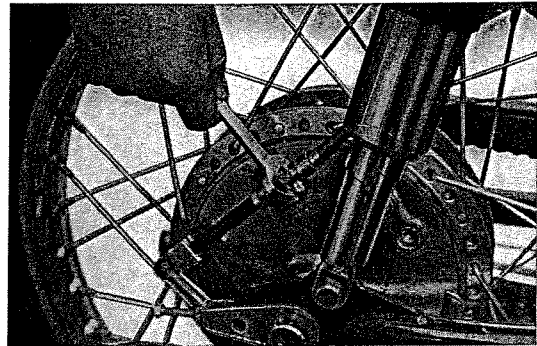

Fig. 6. 37 Adjustment of play of rear brake pedal
- c. Adjust by loosening (a) and turn the adjuster (b). If the adjuster is turned to the right, the play will become greater. (Refer to Fig. 6. 37)
- a. Tools required. (Refer to Fig. 6. 38)